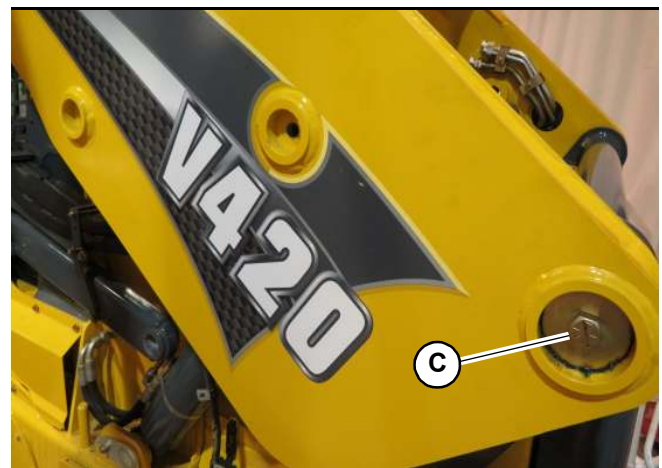

Fig. 32 – Pivot Pin Capscrew and Washer
5. Remove the capscrew and washer (C, Fig. 32) from the upper rear timing link pivot pin. Repeat this step for the opposite side.